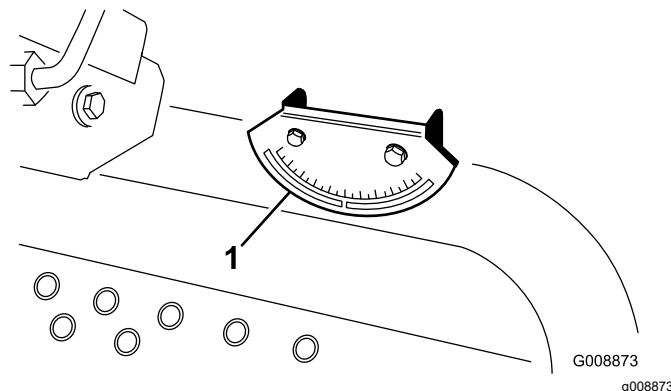

Figure 5
2. Verify that the machine is level by placing a hand held inclinometer (supplied with the machine) on the frame cross rail, by the fuel tank (Figure 5). The inclinometer should read zero degrees when viewed from the operator's position.